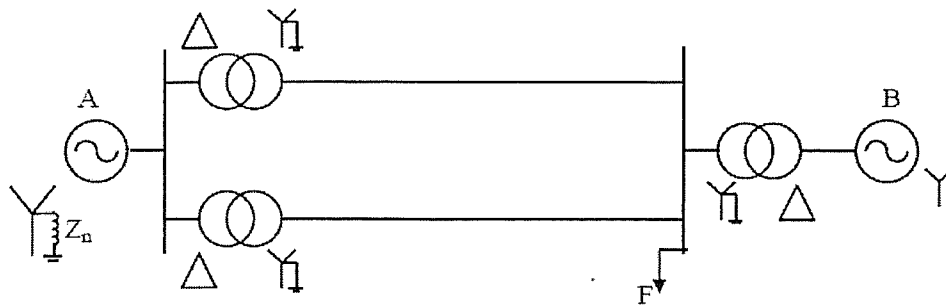

Figure Q5
- A single line diagram of a power system is shown in figure Q5. Reactances of the elements are given to common base values are indicated in the Table Q5. Current limiting reactor Z_n connected between the generator A and earth is $j0.315$ p.u.
- a) Draw positive, Negative and Zero sequence networks for the Figure Q5 [9 Marks]